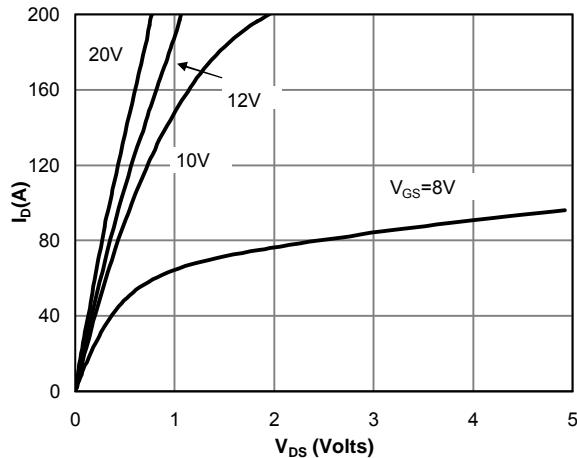

Figure 1: On-Region Characteristics
E. The static characteristics in Figures 1 to 6 are obtained using <300 μs pulses, duty cycle 0.5% max.